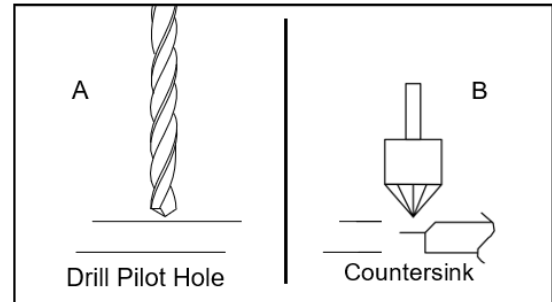

Figure 16: Drill the Hole and Countersink them.
Align the eight (8) hex bolts on the fence rail with the corresponding holes in the extension wing, main table, and router table wing (see Figure 16). Ensure the scale on the fence rail is facing upward and clearly visible.